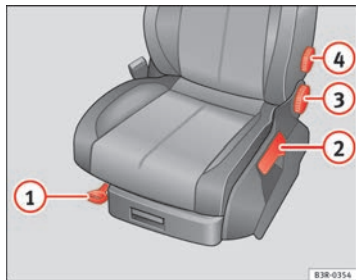

Fig. 106 Adjuster controls on driver seat
- Lift the lever ① ⇒ fig. 106 and move the seat to the desired position.
- Then release the lever ① and move the seat further until the catch engages.
- Pull the lever ② ⇒ fig. 106 up repeatedly until the seat is in the desired position.
- Turn the adjuster wheel  ⇒ page 134, fig. 106 to set the angle of the backrest as required.
- Do not exert any pressure on the backrest and turn adjuster wheel  ⇒ page 134, fig. 106 to adjust lumbar support.